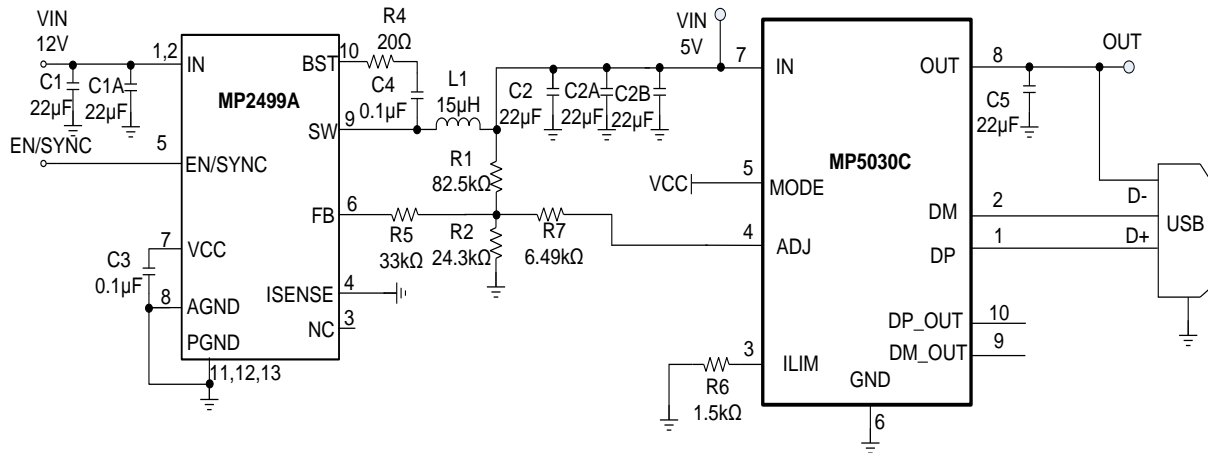
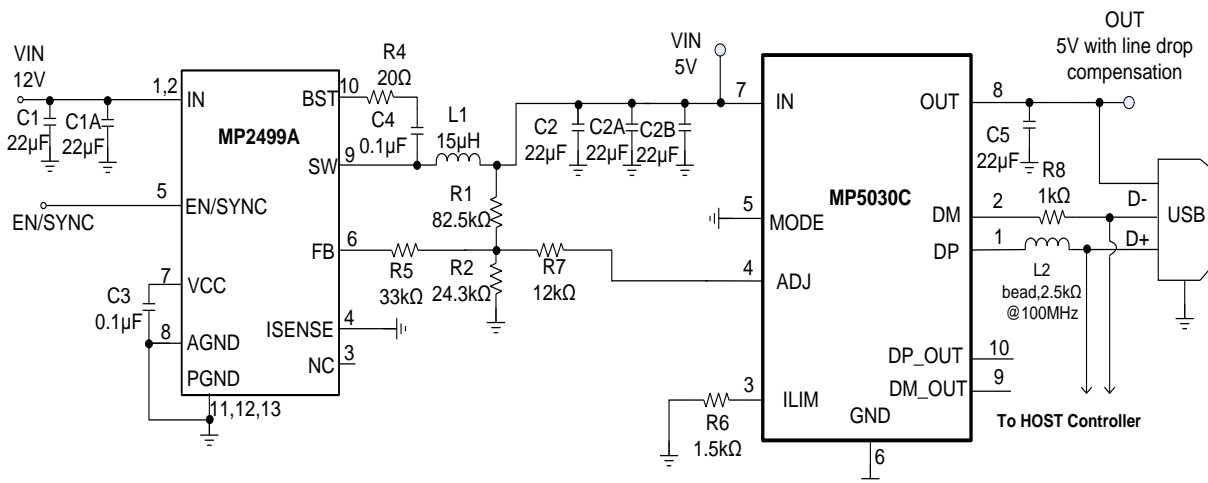

Figure 8: MP5030C + MP2499A for CLA Car Charger, DCP Mode w/ QC
Figure 10: MP5030C + MP2499A for CDP Mode
- 8) The recommended layout is based on the Typical Application Circuit in Figure 8 through Figure 10.